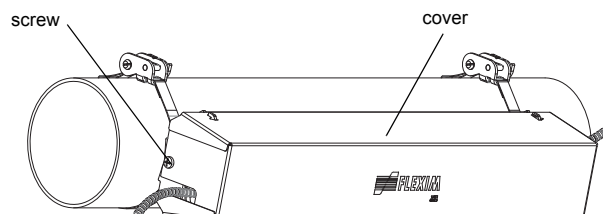

Fig. 8.43: Variofix C with transducer on the pipe
- Put the cover on the rail (see Fig. 8.43).